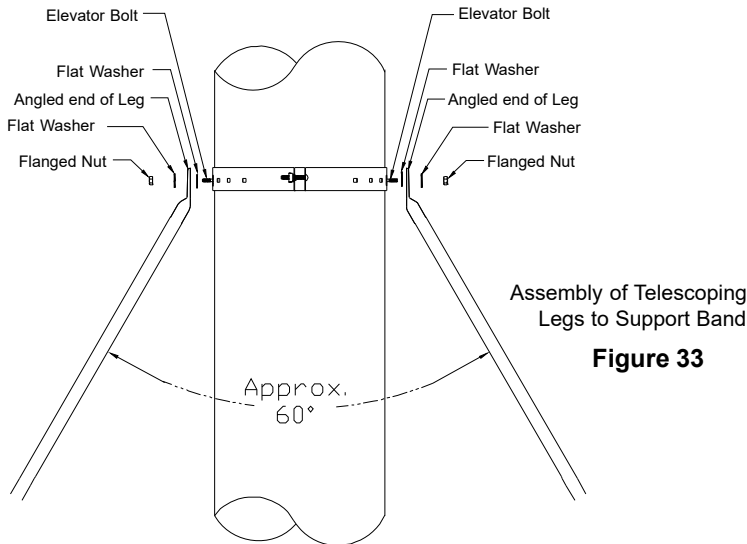

Figure 33
- Place a flat washer on the elevator bolts and attach the angled end of each of the telescoping legs to the 2 elevator bolts on the Support Band with washer and nut (see Figure 33).
K. The two telescoping legs should form an angle of about 60° to give support to the chimney in all directions. The angle of the telescoping legs should be approximately 45° from vertical when fastened to the roof (see Figures 33 & 35).